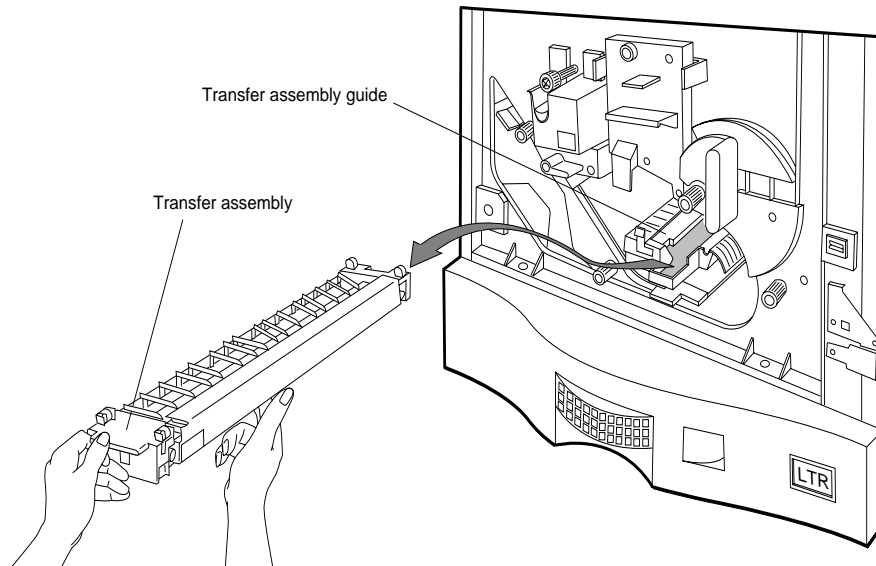

Figure A-10 Removing the Transfer Assembly
3. Push the transfer assembly in and pull up and out to remove, as shown in Figure A-10.